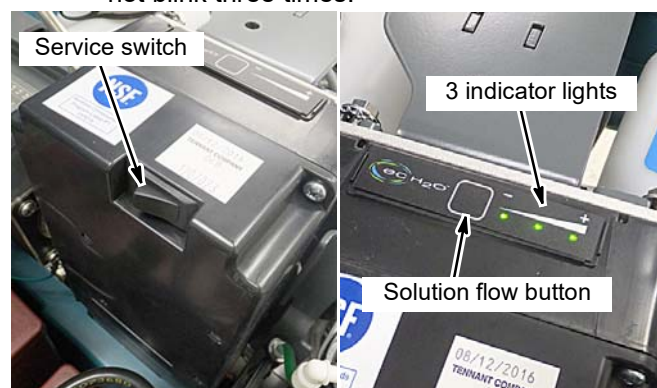

FIG. 96
- b. Press and hold the service switch, located on the ec-H2O module, for 10 seconds. After releasing service switch, the three solution flow indicator lights will begin to (ripple) move back and forth (Figure 96).
- c. Within 5 seconds after releasing the service switch, while the three indicator lights are moving back and forth, quickly press and release the solution flow button located on ec-H2O module (Figure 96). The three indicator lights will then blink three times to indicate timer has been reset. Repeat process if the three indicator lights do not blink three times.